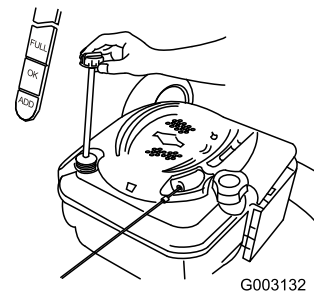

Figure 7
1. Remove the dipstick (Figure 7).
2. **Slowly** pour oil into the oil fill tube until the oil level reaches the Full line on the dipstick (Figure 7). **Do not overfill.** (Max. fill: 20 oz., type: SAE 30W detergent oil with an API service classification of SF, SG, SH, SJ, SL, or higher.)